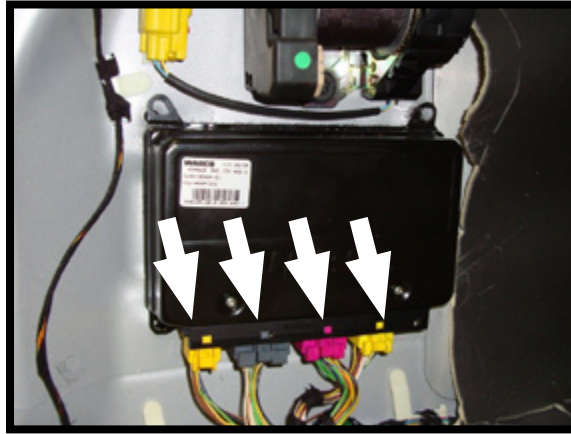

FIGURE 28
4. UNPLUG ALL CONNECTORS FROM THE CONTROL MODULE. (FIGURE 28)